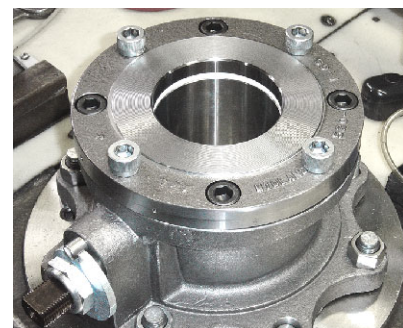

Figure 3 - Ball Valve in Open Position
1.2.7 Install the ball valve in the open position (Fig. 3) so the ball surfaces are protected during the following steps. Do not install the valve handle at this time.